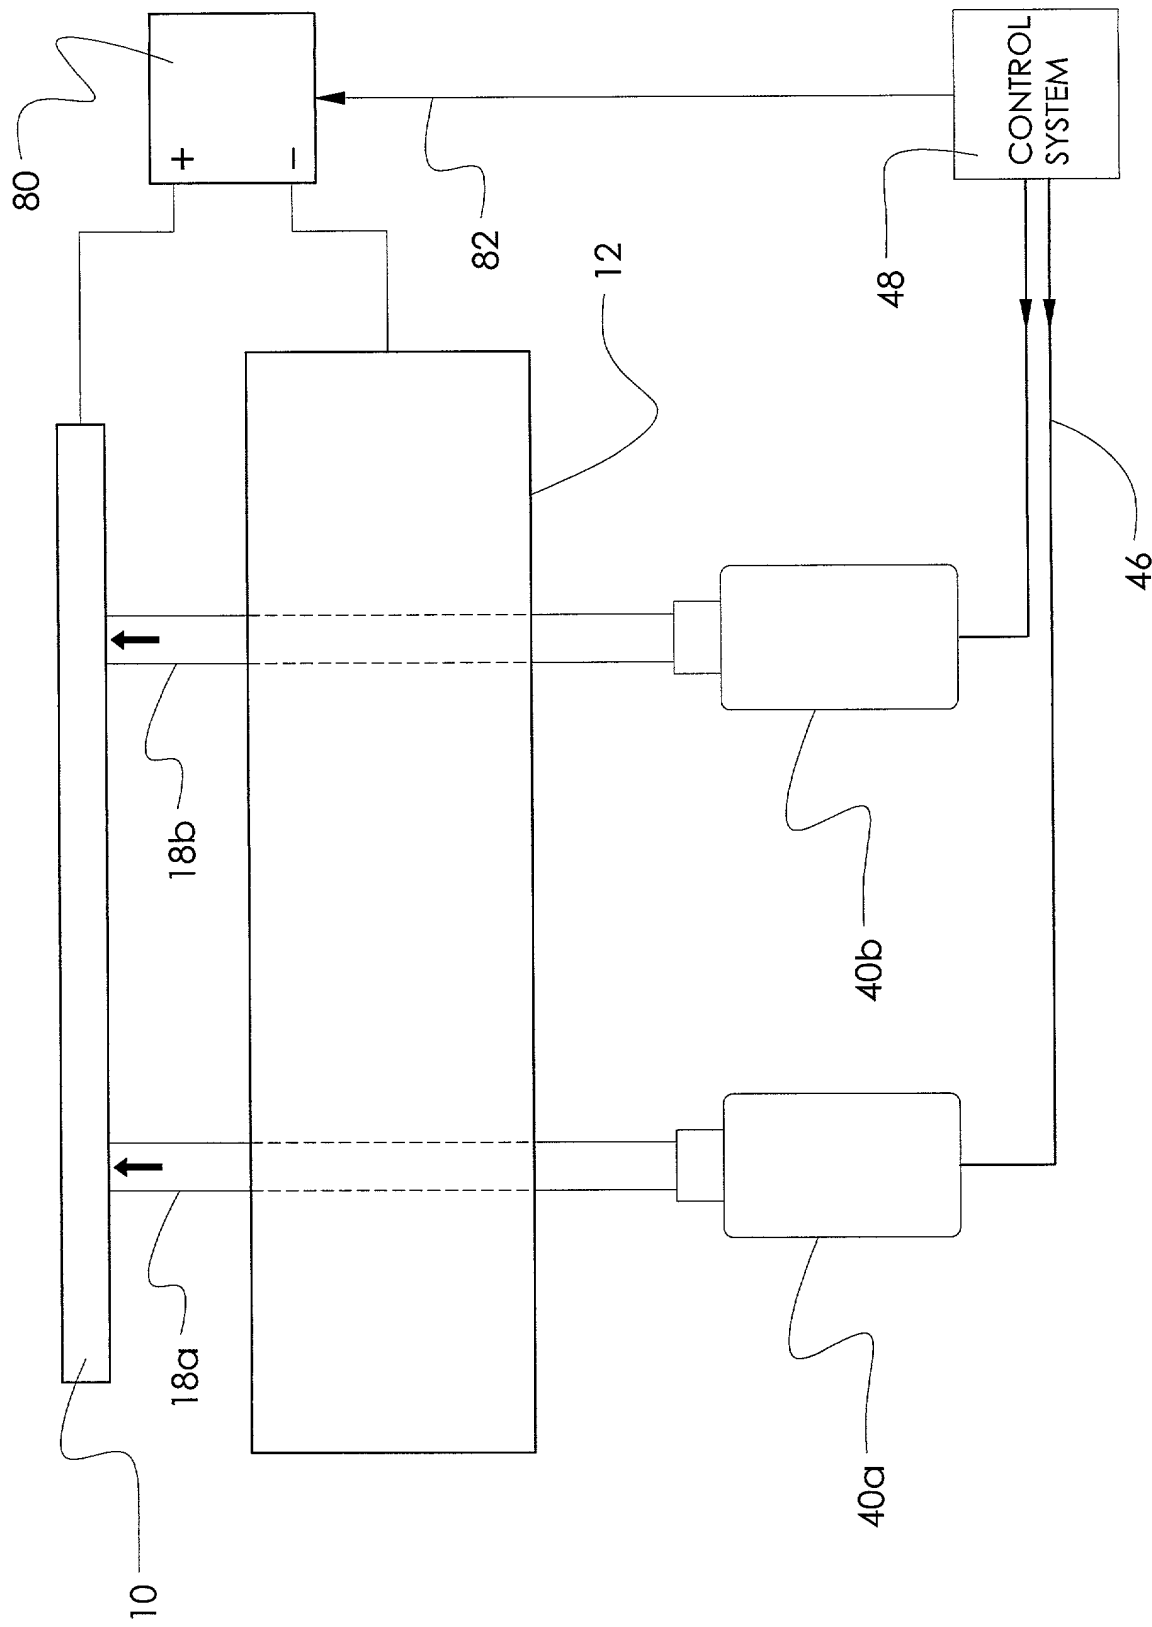

Fig. 5
Fig. 5 is a schematic diagram of a system for controlling a vehicle's position relative to a lane. The system includes a control system (46) that receives input from a sensor (10) and outputs control signals to actuators (40a, 40b). The control system (46) is connected to a sensor (10) via a signal line (48). The control system (46) is also connected to actuators (40a, 40b) via a signal line (46). The actuators (40a, 40b) are connected to a vehicle (12) via a mechanical linkage (82). The vehicle (12) is shown with a steering wheel (18a) and a steering column (18b). The control system (46) is also connected to a power source (80) via a signal line (82).